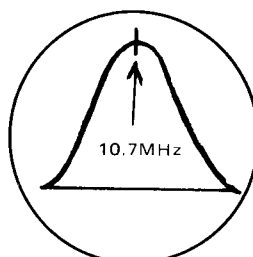

Fig. 21
- Align the T101,102 (primary) to make the wave shape like as in Fig. 21. Be sure to bring the marker signal 10.7MHz to the center and the peak of the wave shape.